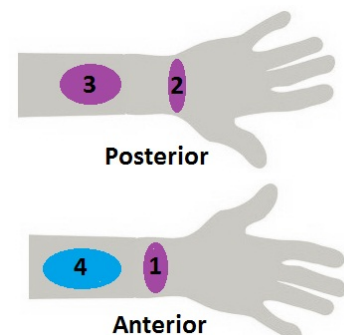

Figure 1: The areas where the splint must apply appropriate pressure depicted for left arm.
- Performance requirements:* The device must apply appropriate pressure to the correct areas to the forearm seen in Figure 1 and Table 1 to maintain alignment for 3-4 weeks. It must be able to withstand daily activities. The pressure should be dynamic and controllable. Initial application and removal should be easy to implement.
- Accuracy and Reliability:* The device must accurately apply pressure to correct areas seen in Figure 1 to facilitate healing of the bones. The device must be reliable to prevent a second intervention to realign the bone placement.